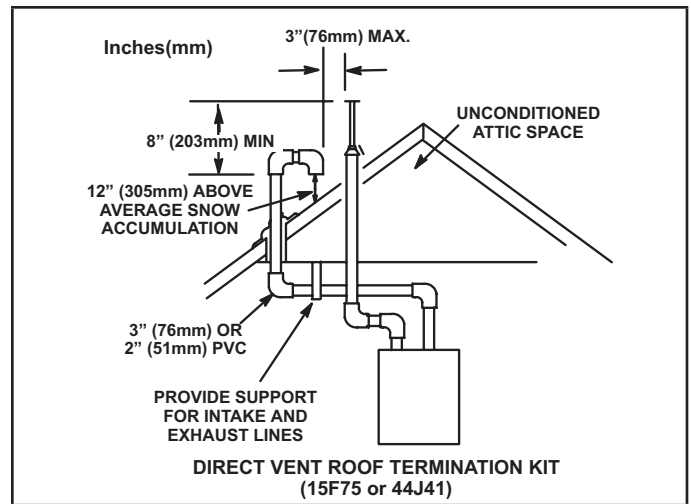

Figure 34
Intake and exhaust pipes may be routed either horizontally through an outside wall or vertically through the roof. In attic or closet installations, vertical termination through the roof is preferred. Figure 34 through Figure 41 show typical terminations.
- 3 - On roof terminations, the intake piping should terminate straight down using two 90° elbows (See Figure 34).